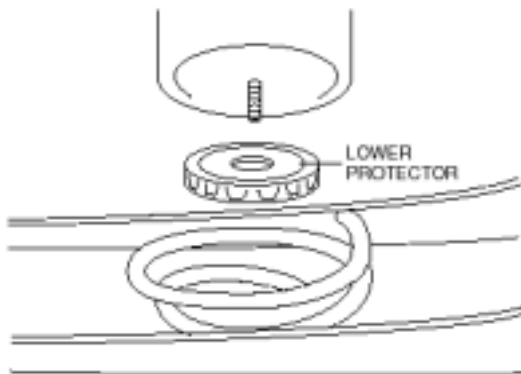

Figure 2
6. Push cylinder to the top of the coil and insert protector on top of lower spring seat. Snap downward into position (Figure 2).